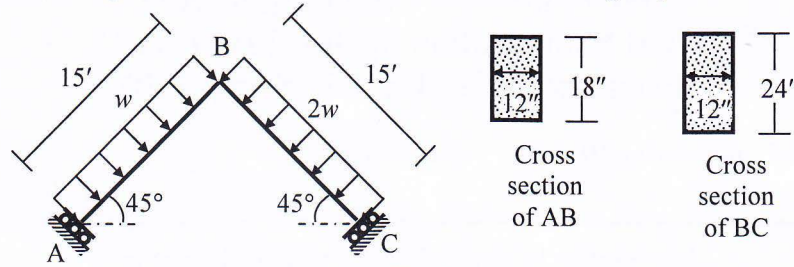

Fig. 6
6. Consider flexural deformations and geometric nonlinearity to calculate the distributed load w (k/ft) required to cause buckling of the frame ABC loaded as shown in Fig. 6 [Given: $E = 45 \times 10^4$ k/ft²].